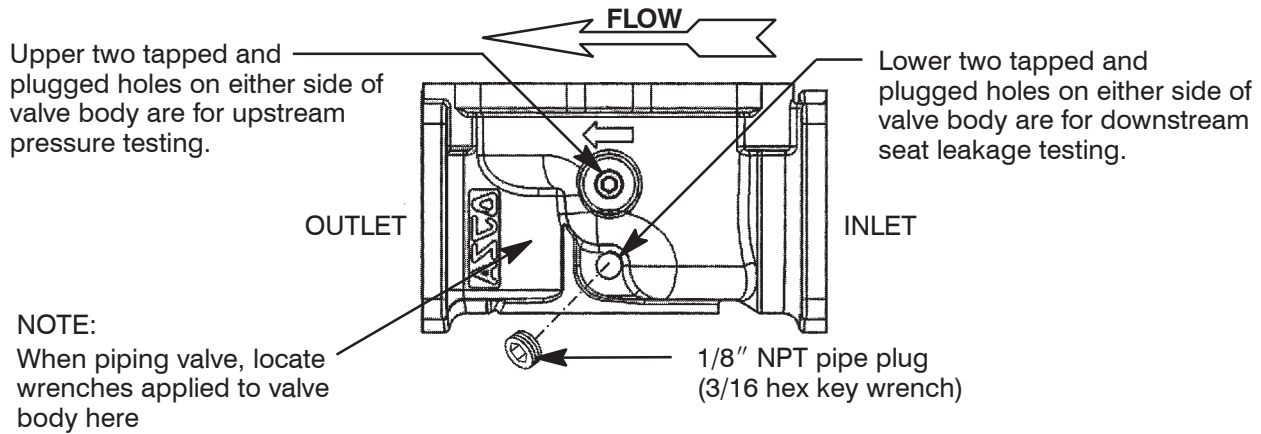

Figure 1. Provisions for wrench flats for piping valve and for pressure and seat leakage testing
Connect piping to valve according to markings on valve body. Apply pipe compound sparingly to male pipe threads only. If applied to valve threads, the compound may enter the valve and cause operational difficulty. Avoid pipe strain by properly supporting and aligning piping. When tightening the pipe, do not use valve or solenoid as a lever. Locate wrenches applied to valve piping as close as possible to connection point. Locate wrenches applied to valve body per Figure 1. Valve should be checked for external leakage at piping connections after installation, see Testing for External Leakage section.
Wrench flats for piping valve and provisions (tapped & plugged holes) for pressure and seat leakage testing not shown in this view, see Figure 1.
1. Wrench flats for piping valve and provisions (tapped & plugged holes) for pressure and seat leakage testing not shown in this view, see Figure 1.